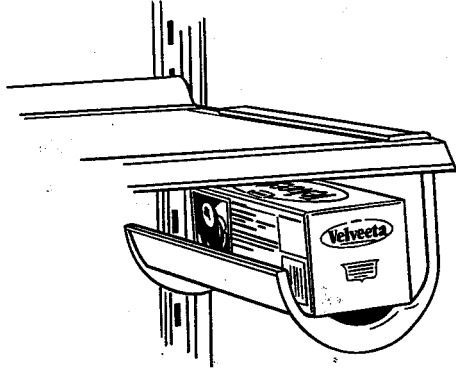

Figure 48
- Tab on flat edge of rack hook over metal frame at the side of any shelf. See Figure 48.